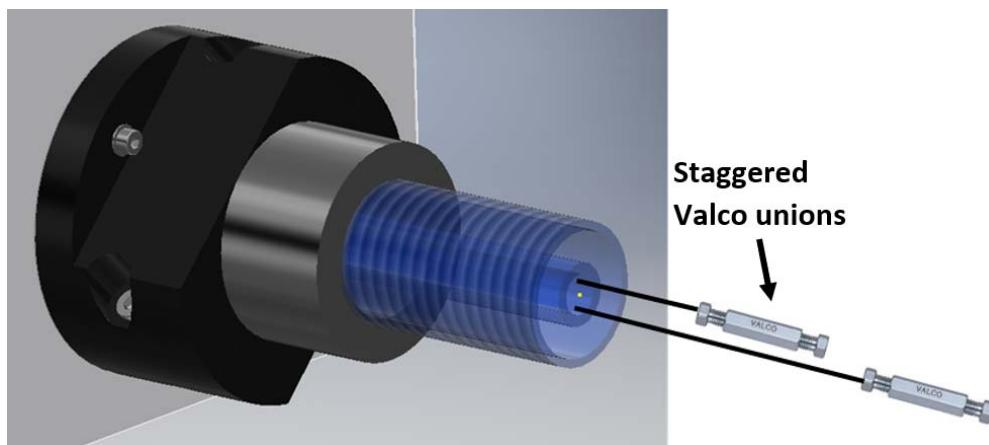

Figure D-17: Chromatography tubing pulled from the oven and swaged to Valco unions
5. With the heated-line secured, pull the two stainless steel chromatography tubes through from the Tosoh oven and the Tosoh heated-line. Swage the tubing to Valco unions (P/N P6427-31020), which are supplied in the Wyatt ship kit. Stagger the two unions as shown in Figure D-17 to minimize the width they occupy. The unions will later be pushed back into the Tosoh heated-line.